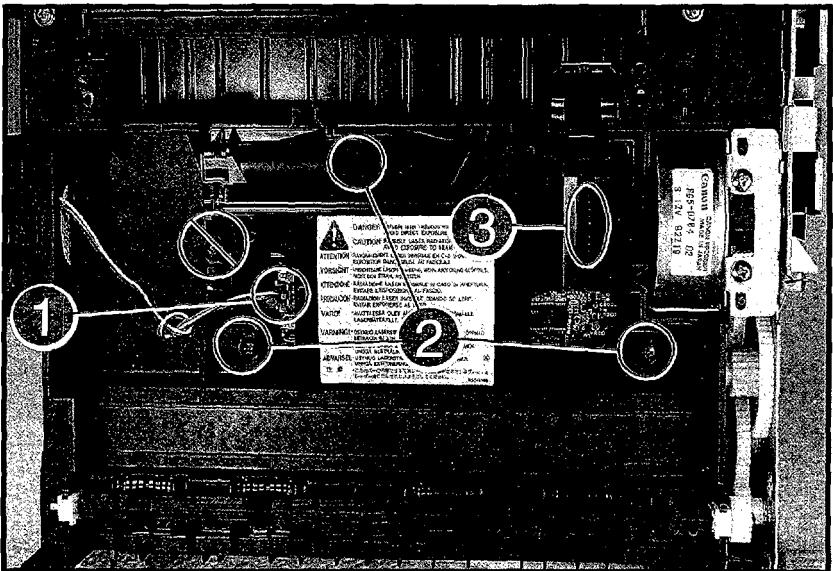

Figure 6-21 Removing the Laser/Scanner Assembly
2. Lift the foam cover and unplug the Fan connector (Figure 6-21, callout 1). (The Fan's power is via the Laser/Scanner Assembly.)
3. Remove the (3) self-tapping screws (Figure 6-21, callout 2).
Note The uppermost screw in Figure 6-21, callout 2, is under a protective light shutter. Do not remove the scanner cover screw (crossed circle in Figure 6-21). There are no field replaceable parts inside the Laser/Scanner Assembly.
4. Lift the Laser/Scanner Assembly at both ends to remove (there may be some connection resistance - Figure 6-21, callout 3).
2. Lift the foam cover and unplug the Fan connector from the Laser/Scanner Assembly (Figure 6-21, callout 1).